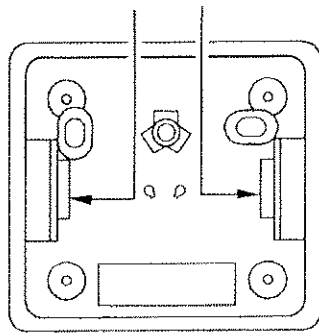

Figure 33 - Back View of Thermostat Base
5. Feed the electrical wires through the rectangular slots on each side of the base (see Figure 33, page 22).